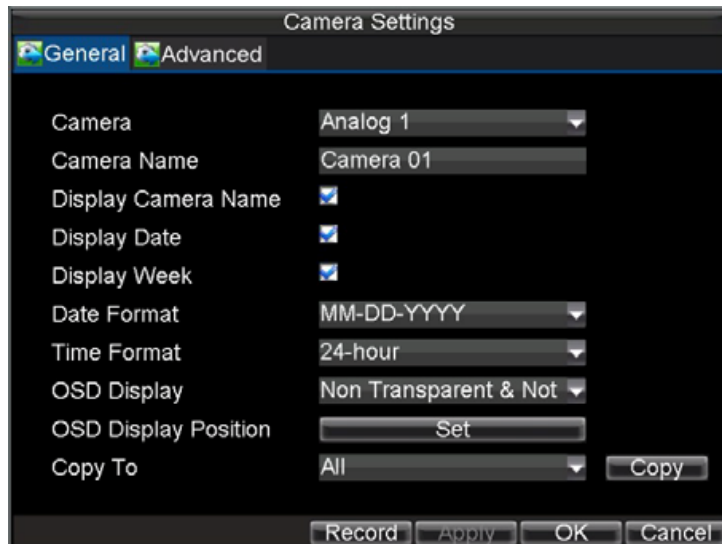

Figure 12.1. OSD Settings Menu
- 1) Click Menu > Settings > Camera to enter the Camera Settings menu, shown in Figure 12.1.